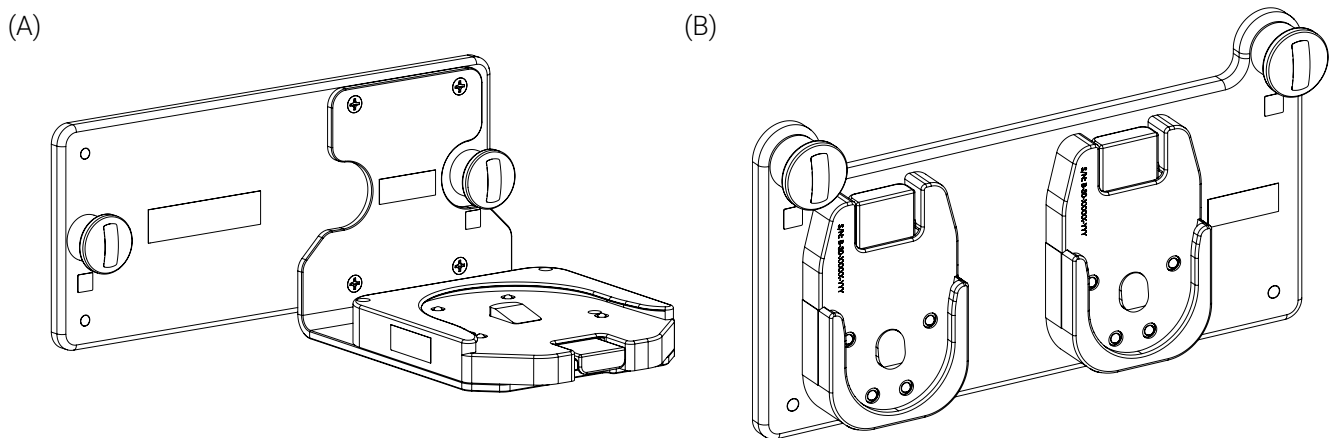

Figure 6: Mounting plates
1. Identify and select a mounting system, depending on the specific positioning needs of the medical equipment (Figure 6).